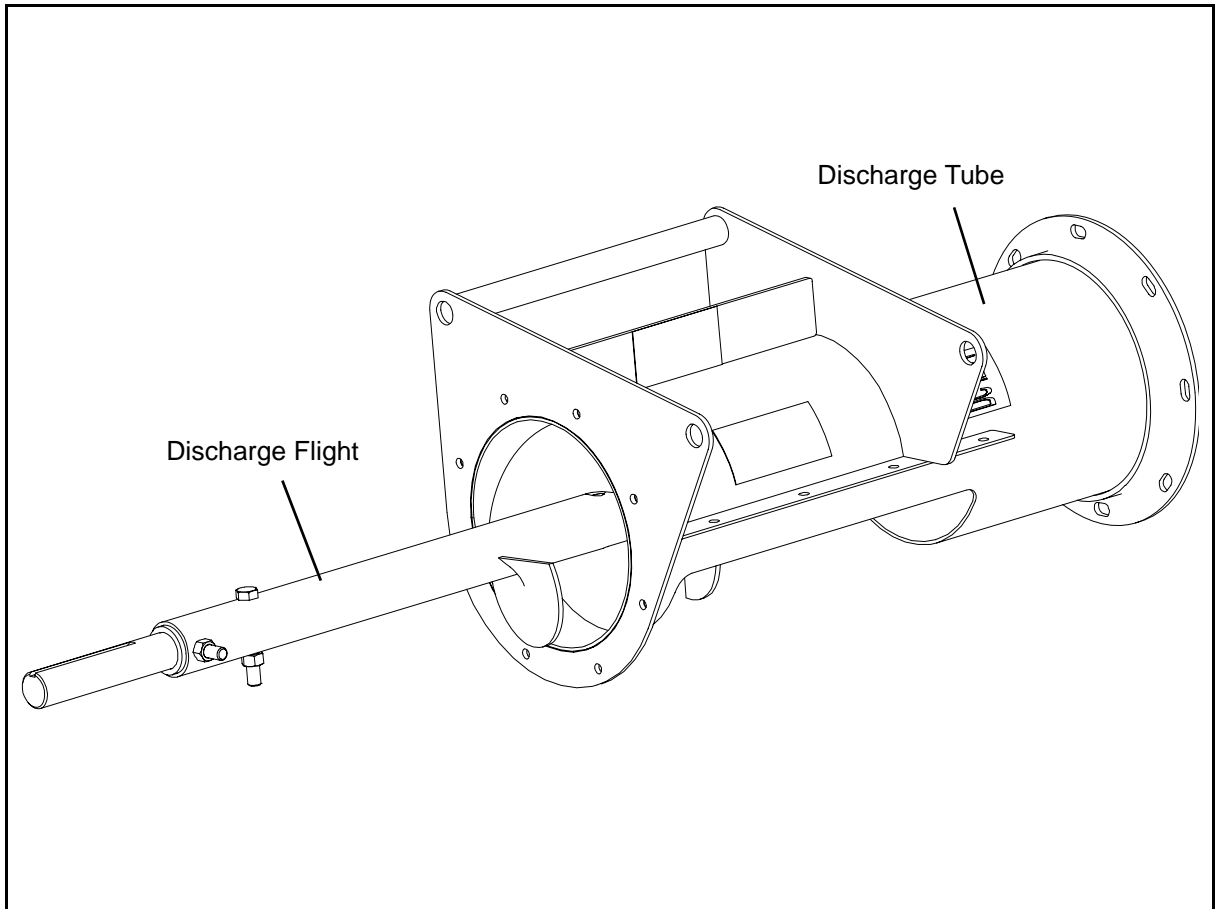

Figure 4B
1. Once the Discharge Tube has been bolted to the unload tube, slide the Discharge Flight into the tube and align the connecting shaft holes with the holes on the unload flight. (See Figure 4B).